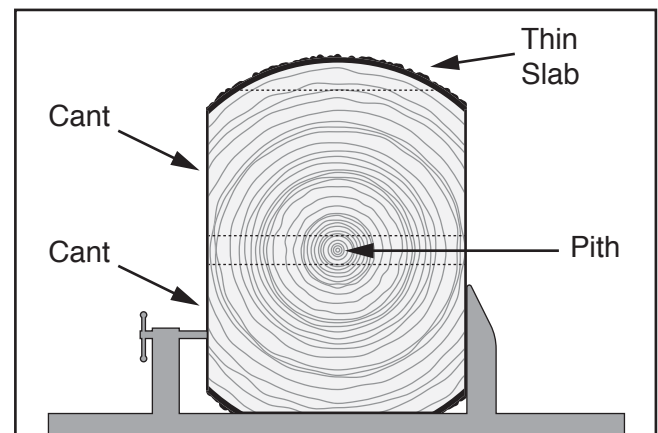

Figure 51. Two rectangular cants and pith to be removed.
8. Cut a thin slab and remove it from cant (see **Figure 51**). Discard slab.
9. Cut above pith, then remove top cant from the cant secured to the track (see **Figure 51**). Set top cant aside for now.
10. Cut below pith. To reduce waste, cut a board that is a usable thickness when cutting below pith. Remove board with pith from cant (see **Figure 51**). Set board aside for now.